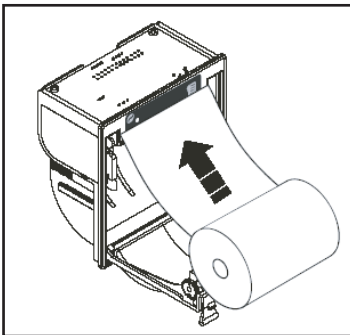

Fig. 38: Installing new paper roll
2. Position the roll of paper inside the housing in the rotation direction indicated in Fig. 38.